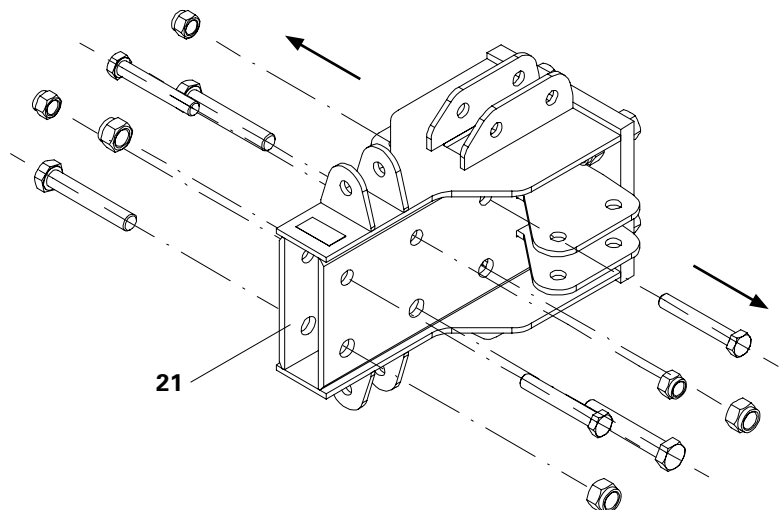

Fig. B2.03
1. Remove all 6 bolt connections from the Prop Connector VST 48 (**21**). (Fig. B2.03)